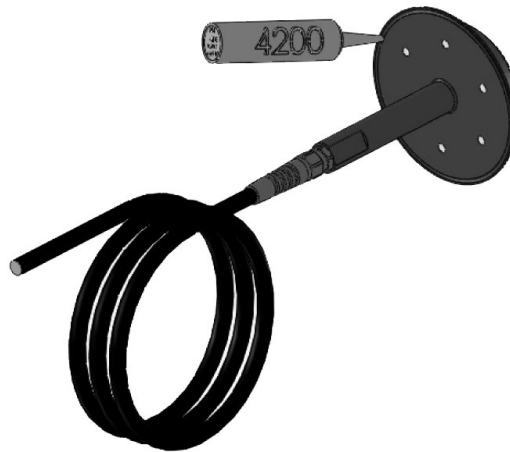

Fig.3.1
**TIP:** Make sure sealant fills in the recess grooves on the reverse of the light head (See Fig.3.1).